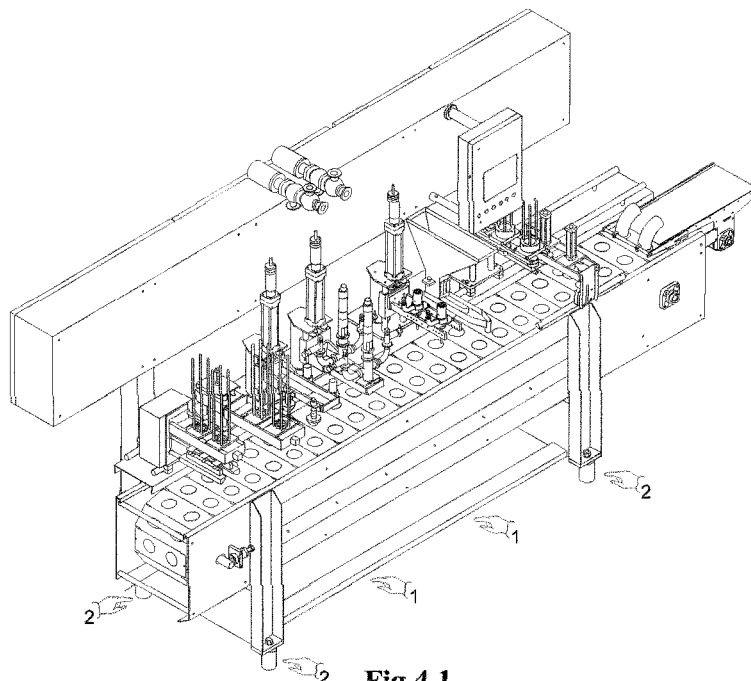

Fig.4.1
- a. Position the machine at the place of production. Move the machine using a fork lift truck of suitable capacity (*Part.1 Fig.4.1 fork positions*), checking that there is sufficient space to remove the guards and allow ease of access to the internal machine parts.
- b. Adjust the feet (*Part.2 Fig.4.1*) until the machine is perfectly level both longitudinally and transversally.